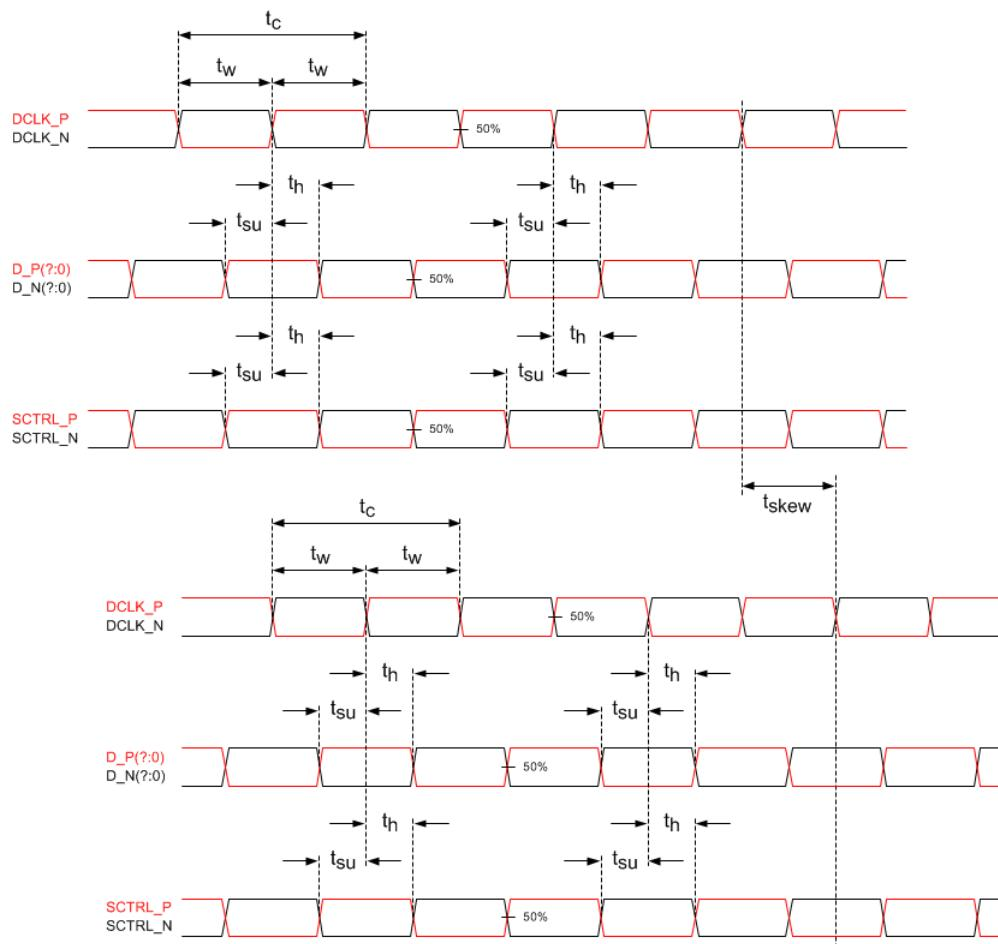

图 6-5. Timing Requirements
- (7) See LVDS Timing Requirements in 节 6.7 and 图 6-5.
(1) See 图 6-5 for timing requirements for LVDS.
(2) Channel A (Bus A) includes the following LVDS pairs: DCLK_AN and DCLK_AP, SCTRL_AN and SCTRL_AP, D_AN(15:0) and D_AP(15:0).
(3) Channel B (Bus B) includes the following LVDS pairs: DCLK_BN and DCLK_BP, SCTRL_BN and SCTRL_BP, D_BN(15:0) and D_BP(15:0).